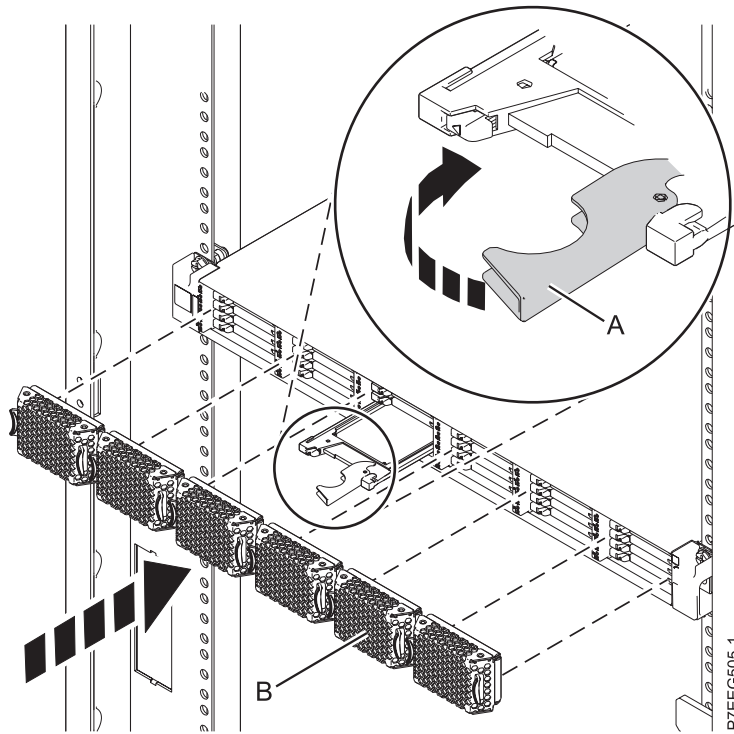

Figure 47. Replacing a solid-state drive in the 5888 PCIe storage enclosure.
4. When the solid-state drive identify LED flashes, slide the solid-state drive all the way into the 5888 PCIe storage enclosure until it is fully seated. Then rotate the handle (A) to the locked position. See Figure 47.
5. Install the bezel (B).